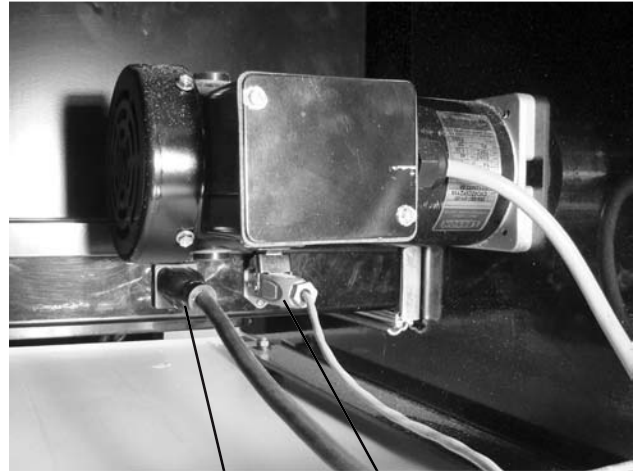

Fig. 15
3. Plug burster power cable & interlock cable into folder (Fig. 15). Remove lower fold plate to access the receptacles.